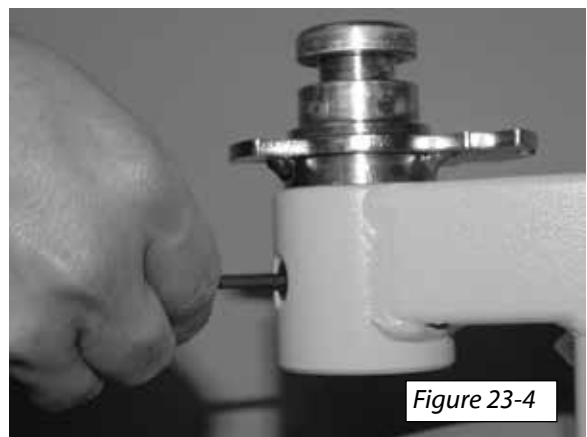

*Figure 23-2*
**2.** Place the rooster into the hole on the uphill side of the chassis. *[Figure 23-2]* Align the remaining screw with the slot on the post hole.